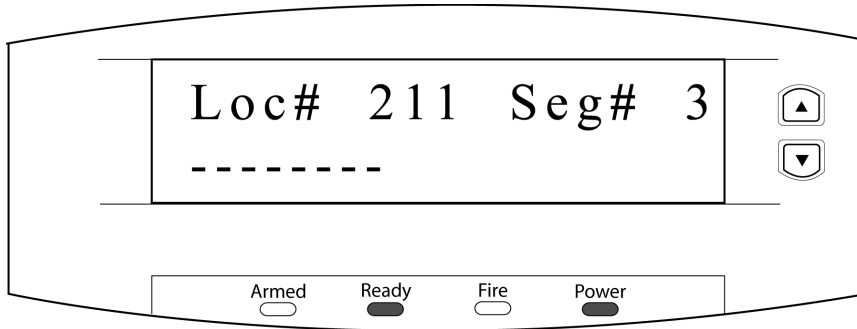

Figure 13: Alarm Panel - Location 211, Segment 3
6. Select the  key to save the selection and move to the next segment. For Location 211, Segment 3, all numbered options must be toggled to the OFF position. Once completed, the LCD will look similar to Figure 13.